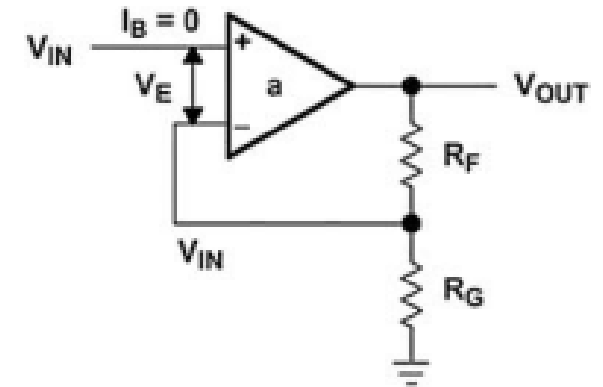

Figure 2.3
- Circuit diagram shown in Fig 2.3